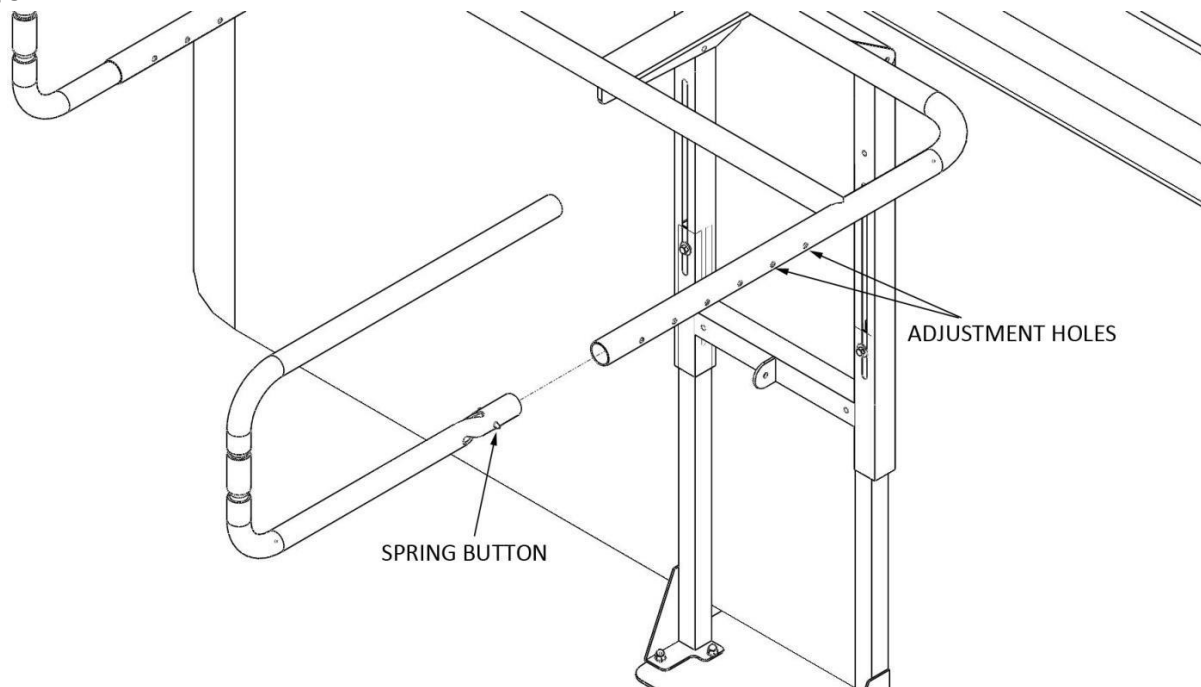

Figure 8
8. Attach the left and right U-Arm assemblies to the open tubes of the ccEE Pivot Arm using the spring buttons. Use the hole that will allow the U-Arms to swing as low as possible, without hitting the ground. See Fig 8.